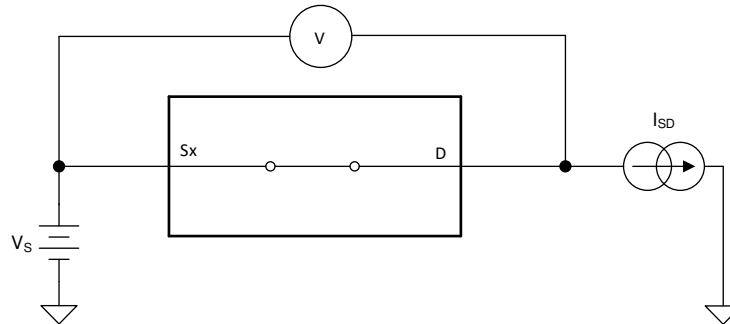

图 16. On-Resistance Measurement Setup
The on-resistance of a device is the ohmic resistance between the source (Sx) and drain (D) pins of the device. The on-resistance varies with input voltage and supply voltage. The symbol R_{ON} is used to denote on-resistance. The measurement setup used to measure R_{ON} is shown in Figure 16. Voltage (V) and current (I_{SD}) are measured using this setup, and R_{ON} is computed with $R_{ON} = V / I_{SD}$: